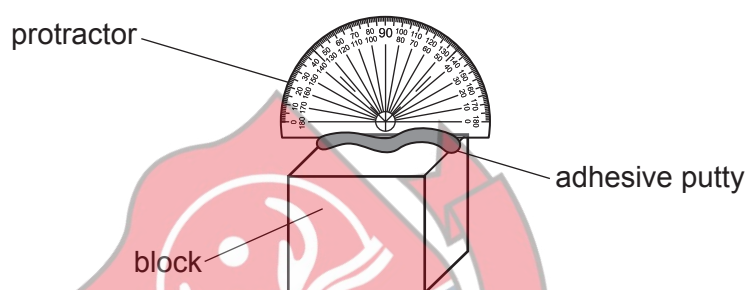

Fig. 1.5
- 4 Attach the protractor to the wooden block with approximately two-thirds of the adhesive putty, as shown in Fig. 1.5.